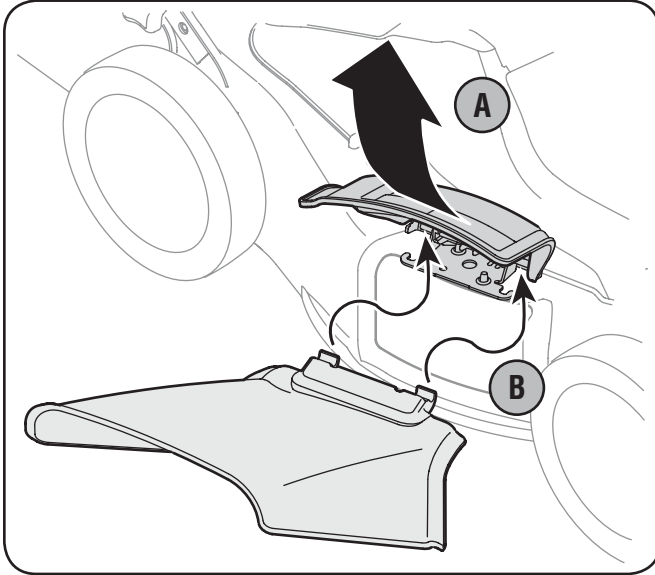

Figure 3-6
2. Slide chute hooks under hinge pin on mulching plug assembly. Lower mulching plug. See Fig. 3-6.